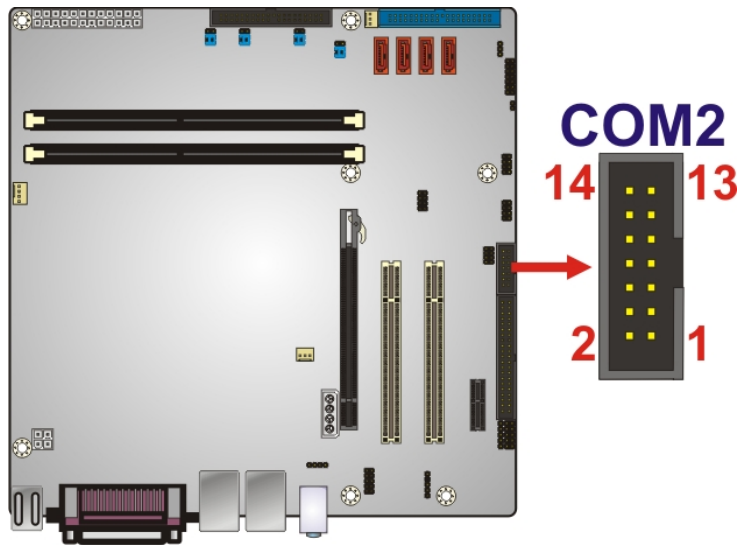

Figure 3-18: Serial Port Connector Location
- CN Location:** See **Figure 3-18**